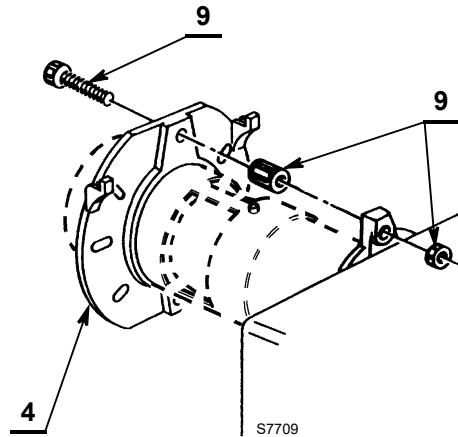

Fig. 9
- Fit the screw and the two nuts 9) on flange 4) (Fig. 9).